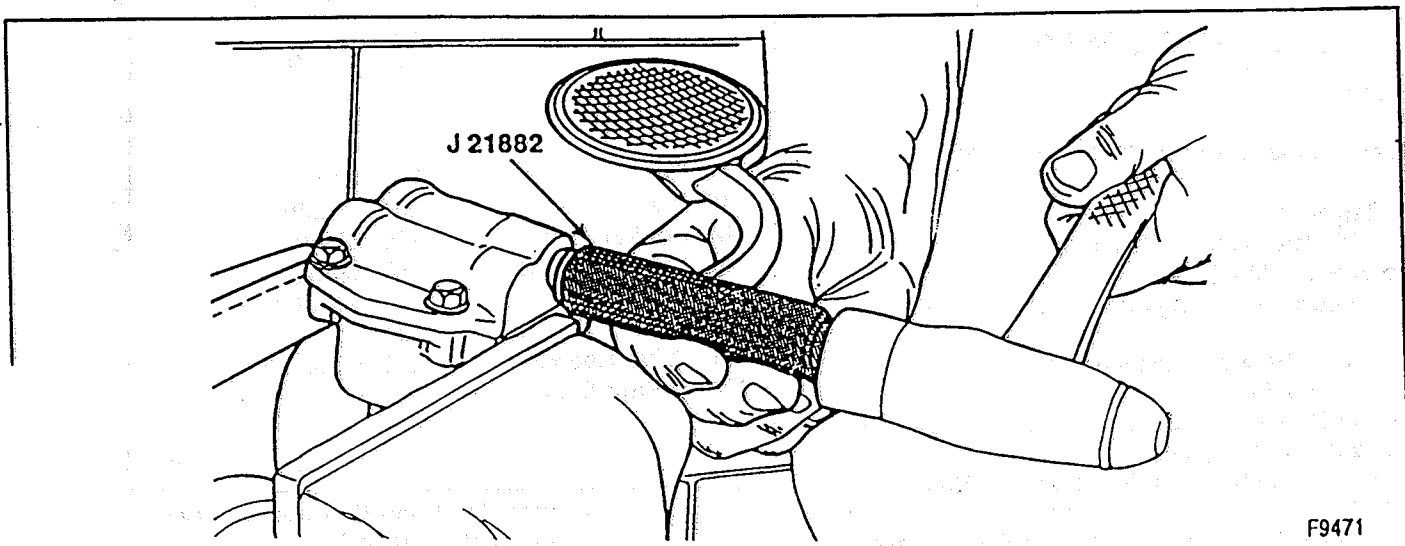

Figure 54—Installing the Oil Pump Pickup Tube and Screen (5.0L and 5.7L Engines)
7. Pickup screen and pipe (187) (if removed) (figure 54).